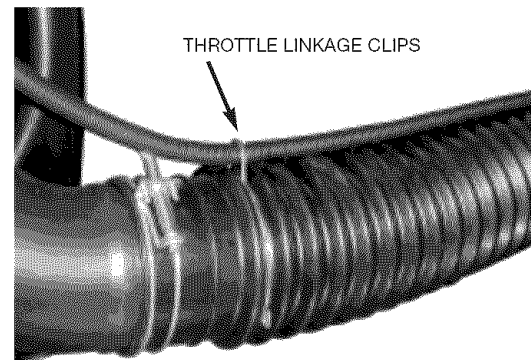
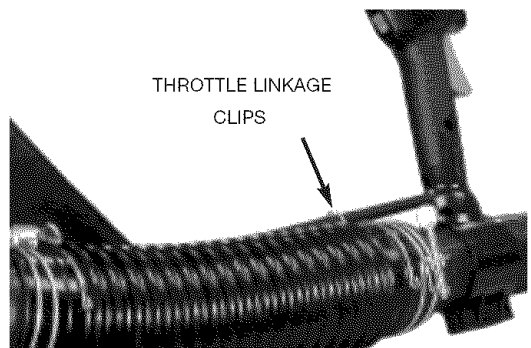

Fig. 5
Fig. 6
4. Attached throttle linkage clips (# 24-know your blower) - to both ends of the flex tube to secure the throttle cable. (See Fig. 5 and Fig. 6)